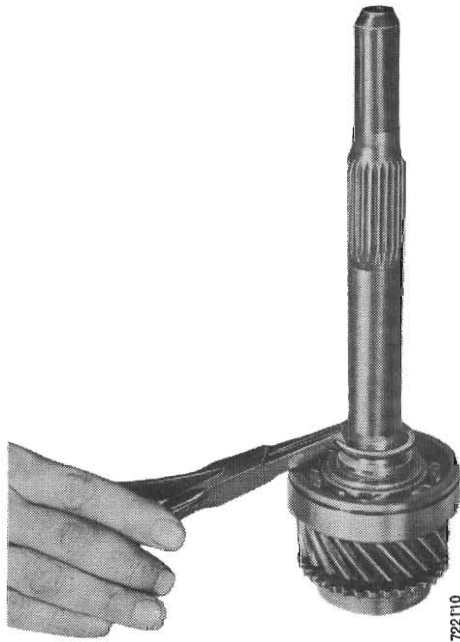

Fig. 13 - Removing snap ring—maindrive gear bearing.
(1) Remove needle rollers from bore of gear.
(2) Remove snap ring from shank of gear. (refer Fig. 13).
(3) Remove maindrive bearing and oil slinger.